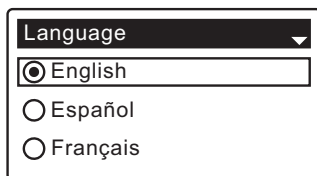

FIG. 16
1. **LANGUAGE** If the desired language already has a black dot next to it (See Figure 16), go to Step 2. Otherwise, press the softener’s DOWN (▼) or UP (▲) buttons to scroll to the desired language, then press the SELECT (○) button to choose it.